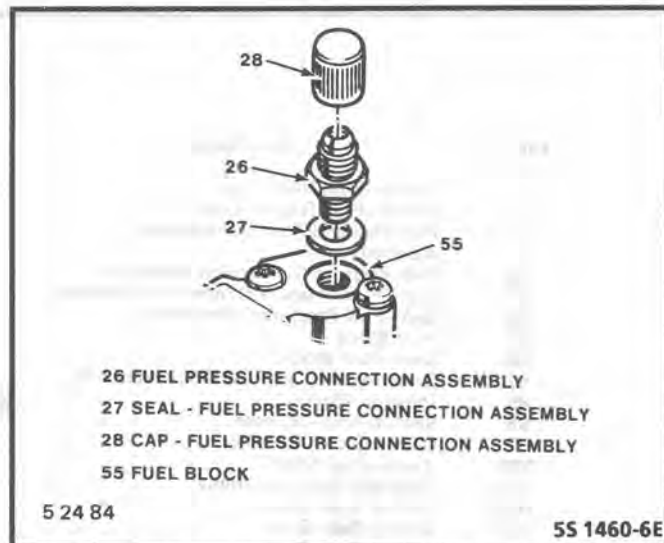

Figure C2-14 Fuel Pressure Connection Assembly
**Fuel Pressure Connection Assembly (Figure C2-14)**
3. Fuel pressure connection assembly (26) and seal (27). Discard seal.